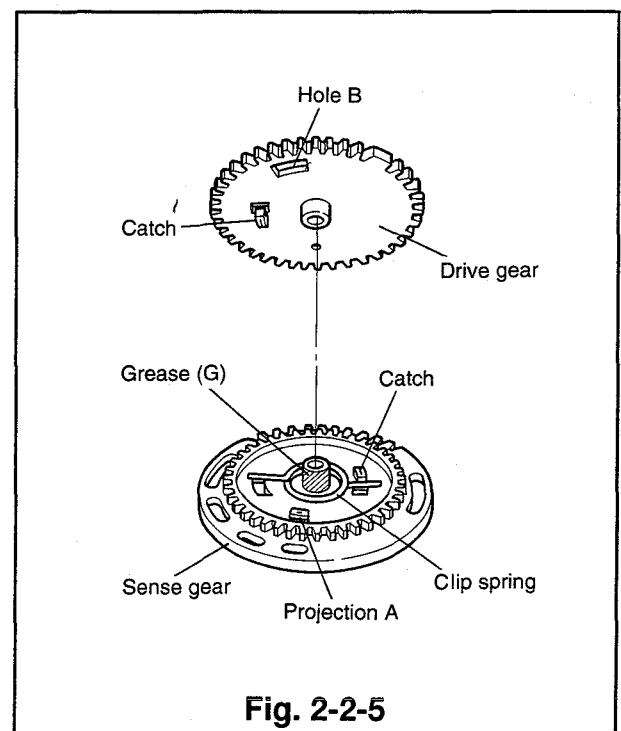

Fig. 2-2-5
- ② Apply the grease(G)[859D055050] to the area shown in Fig. 2-2-5 of the new sense gear.
- ③ Place the clip spring onto the drive gear hooking one end under the catch as shown in Fig. 2-2-5. Install the sense gear onto the drive gear so that hole A aligns with hole B. Hold the sense gear while turning the drive gear clockwise, in so doing engage the other end of the clip spring with the catch of the sense gear. The projection A of the sense gear must enter the hole B of the drive gear.
- ④ Ensure the spring action is effective by holding the sense gear and turning the drive gear slightly clockwise, observing whether the drive gear returns when released.